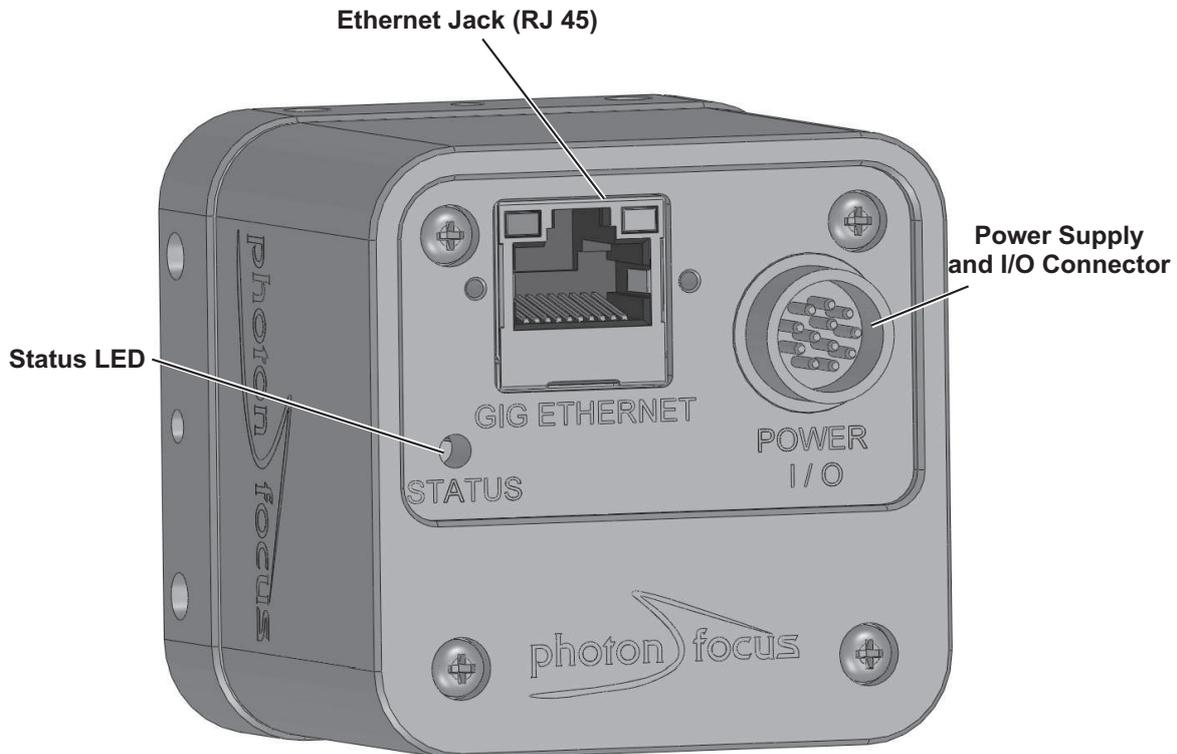

Figure 3.1: Rear view of the Photonfocus GigE camera series with power supply and I/O connector, Ethernet jack (RJ45) and status LED
4. Connect the power supply to the camera (see Fig. 3.1).